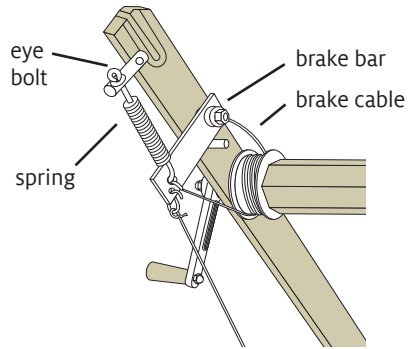

FIGURE 14: FRICTION BRAKE
25. The friction brake can be adjusted by tightening or loosening the eye bolt (Figure 14). This will increase or decrease the tension on the spring, which will in turn increase or decrease the tension on the brake bar and the brake cable.